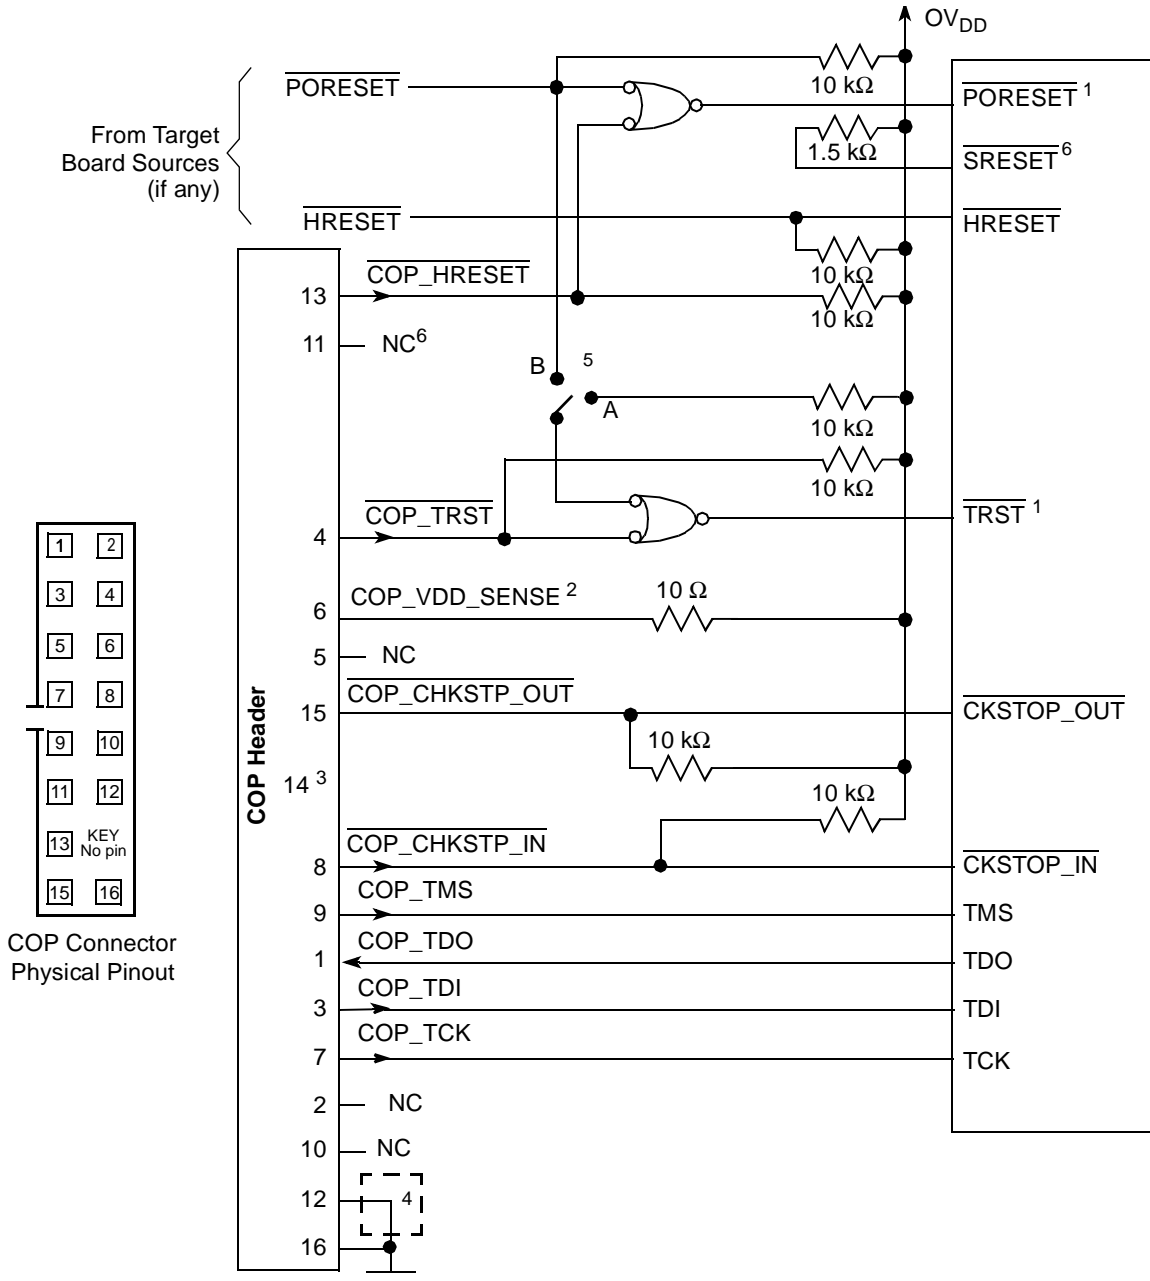

Figure 5. JTAG Interface Connection
Correct operation of the JTAG interface requires configuration of a group of system control pins as demonstrated in Figure 5. Care must be taken to ensure that these pins are maintained at a valid negated state under normal operating conditions because most have asynchronous behavior and spurious assertion yields unpredictable results.
The arrangement shown in Figure 5 allows the COP port to assert $\overline{\text{PORESET}}$ and $\overline{\text{TRST}}$ independently, while ensuring that the target can drive $\overline{\text{PORESET}}$ as well.
- $\overline{\text{TRST}}$ should be tied to $\overline{\text{PORESET}}$ through a 0 k Ω isolation resistor so that it is asserted when the system reset signal ($\overline{\text{PORESET}}$) is asserted, ensuring that the JTAG scan chain is initialized during the power-on reset flow. Freescale recommends that the COP header be designed into the system as shown in Figure 5. If this is not possible, the isolation resistor allows future access to $\overline{\text{TRST}}$ in case a JTAG interface may need to be wired onto the system in future debug situations.